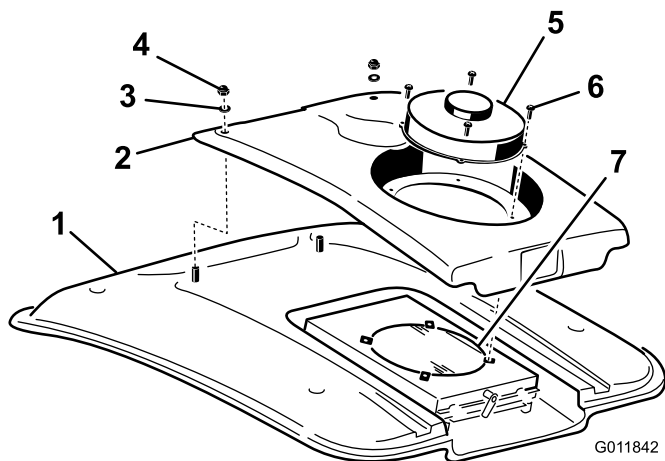

Figure 103
2. Remove the (4) screws securing the fan and the condenser cover to the fan mount (Figure 103).
4. Remove the two nuts and washers securing the front of the condenser cover to the cab roof (Figure 103).
8. Clean the air conditioning condenser thoroughly with compressed air (Figure 103).